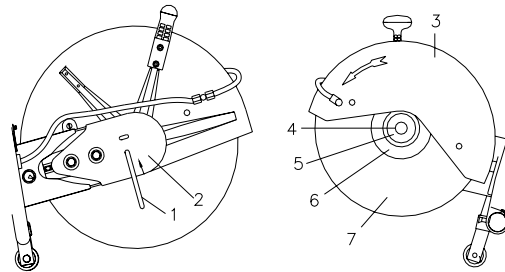

Fig. 5
c) Fitting/Replacing the blade: (Ref. Fig.5)